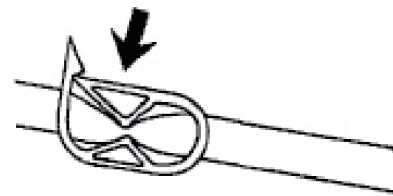

Figure 1-10: Close the clamp
2. Close the clamp by pressing the clamp together (Figure 1-10 on page 11).